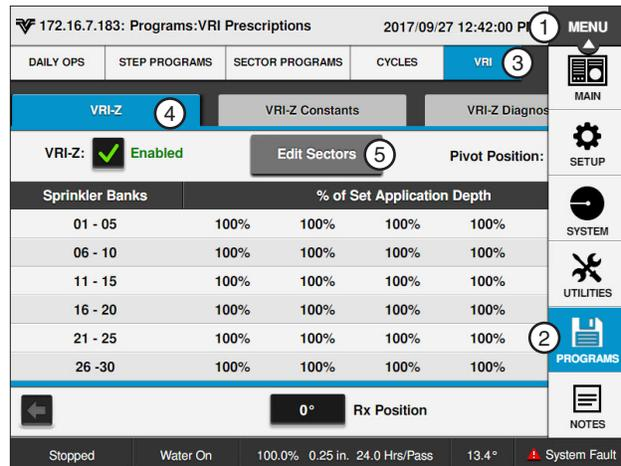

Figure 164-1 1. Menu 4. VRI-Z
1. Push **Menu**, **Programs**, **VRI** and **VRI-Z** to display the VRI-Z screen. Refer to Figure 164-1.